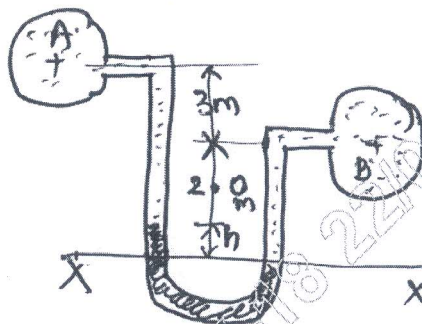

Fig. Q2 (c)
c. A differential manometer is connected at the two points A and B of two pipes as shown in Fig. Q2 (c). The pipe A contains a liquid of specific gravity 1.5, while pipe B contains a liquid of specific gravity 0.9. The pressures at A and B are 1 kgf/cm^2 and 1.80 kgf/cm^2 respectively. Find the difference in mercury level in differential manometer. (06 Marks)